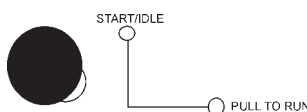

Figure 48. Engine Throttle Lever (low)
7. Check the engine throttle lever is in 'low' position (Figure 48).